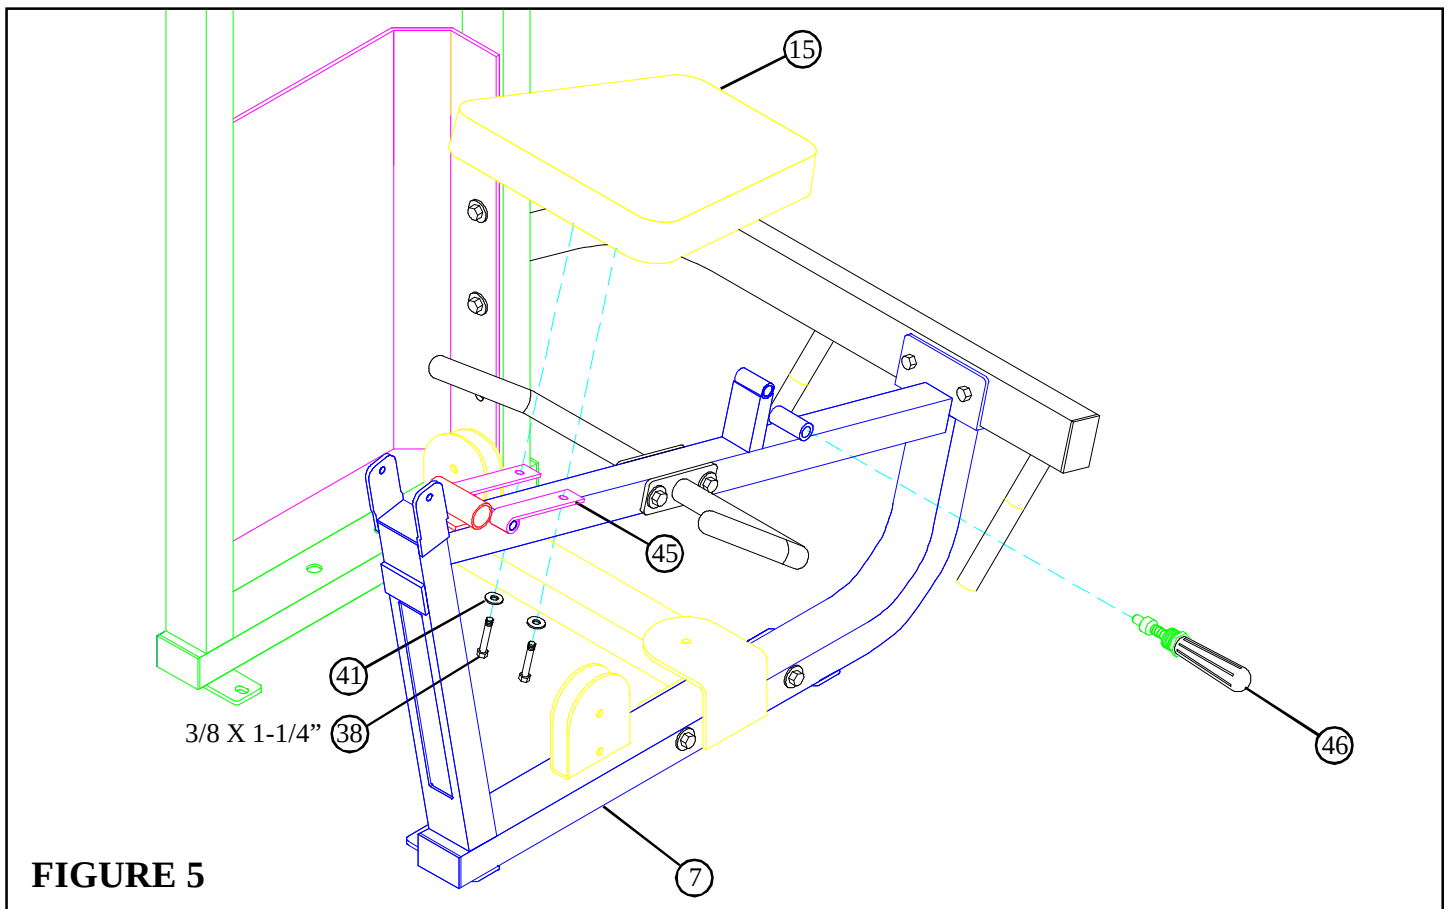

FIGURE 5
- **SECURELY** assemble SEAT PAD (15) to HINGE TABS (45) using two 3/8 X 1-1/4" BOLTS (38) and two 3/8" WASHERS (41). See FIGURE 5.
- **SECURELY** assemble one 1/2 X 7-7/8" SPRING PIN (46) to the BENCH FRAME (7) as shown in FIGURE 5. **(NOTE: IMPORTANT! Tighten SPRING PIN completely.)**